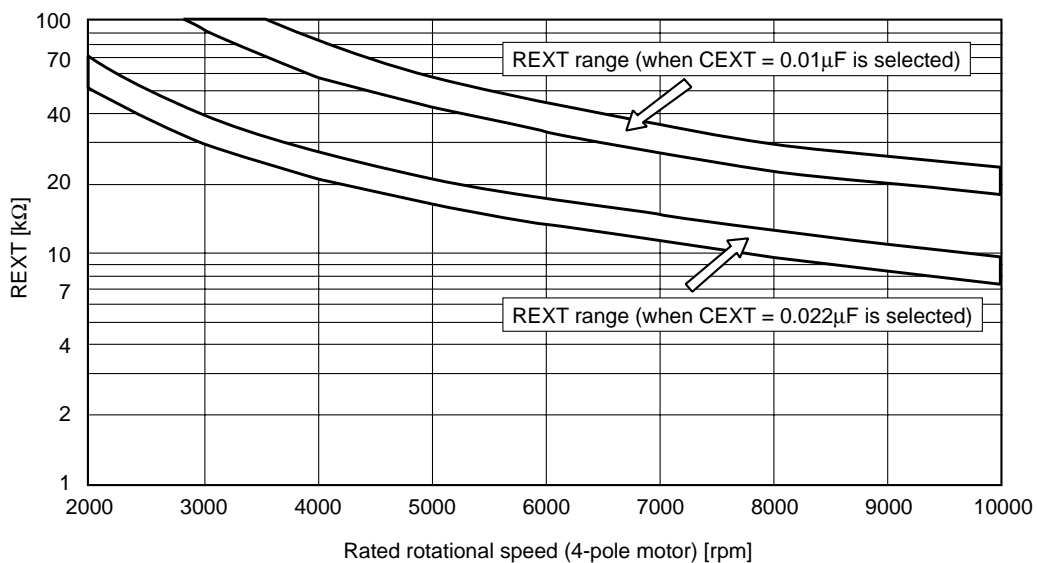

Fig. 6. REXT Pin External Resistance Value According to the Motor Rated Rotational Speed
- 2) Determine CEXT and REXT from Fig. 6.
Determine CEXT and REXT from Fig. 6 based on the number of motor poles and the target rated rotational speed.